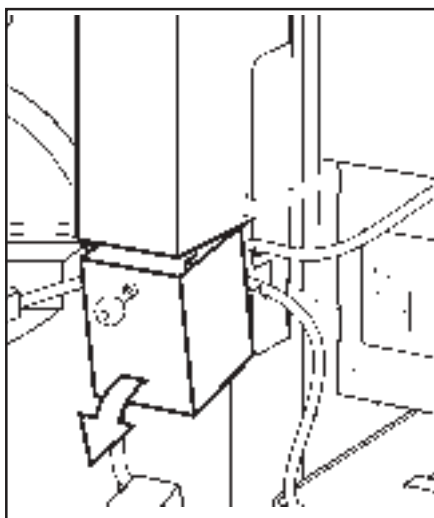

Fig. 15: Removing the coin box
2. Remove the coin box with the key (see fig. 15).